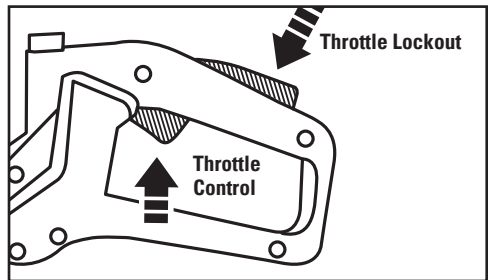

Fig. 21
The throttle lockout is designed to prevent accidental operation of the throttle control. When you press the lockout (2) (i.e. when you grasp the handle) it releases the throttle control (see Fig. 21).